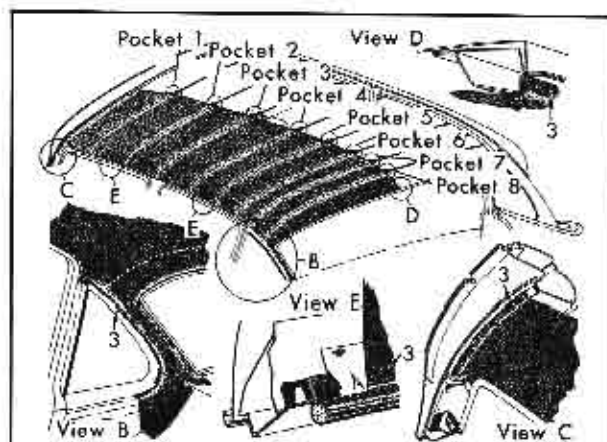

Fig. 3-77 Removing Headlining (6219, 6019)
3. Remove tacks or staples from the headlining over the windshield opening, View "C" 3, Fig. 3-77, and carefully disengage the cemented edge of the headlining.
disengage the cemented ends of the headlining. View "B" and "D" 3, Fig. 3-77.
6. Carefully disengage the headlining from the metal retainer tabs along both side roof rails. View "E" 3, Fig. 3-77.